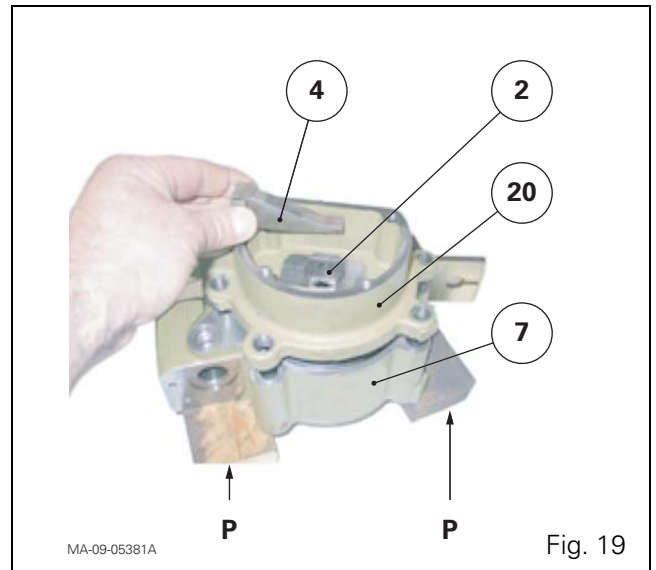

Fig. 19
45. Refit and position the cover plate (20) on the ParkLock unit (7) (Fig. 19). Test fit to check that the wedge (4) is correctly aligned with the clevis of the piston (2) (Fig. 19). If the alignment is incorrect, correct it.